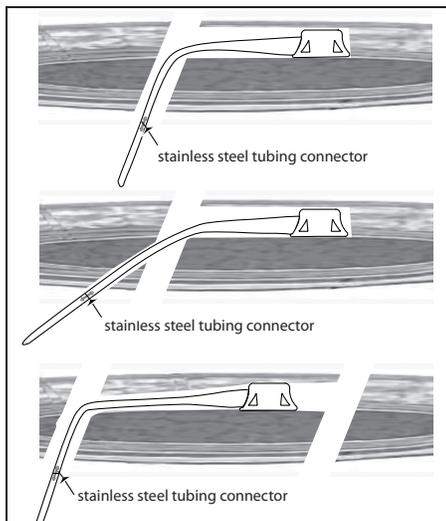

Figure 1. Port Placement Options
8. Failure to create a stable, smooth path for the Access Port tubing, without sharp turns or bends, can result in tubing breaks and leakage. In order to avoid incorrect placement, the port should be placed lateral to the trocar opening. A pocket must be created for the port so that it is placed far enough from the trocar path to avoid abrupt kinking of the tubing. The tubing path should point in the direction of the Access Port connector so that the tubing will form a straight line with a gentle arching transition into the abdomen. (See Figure 1. Port Placement Options).